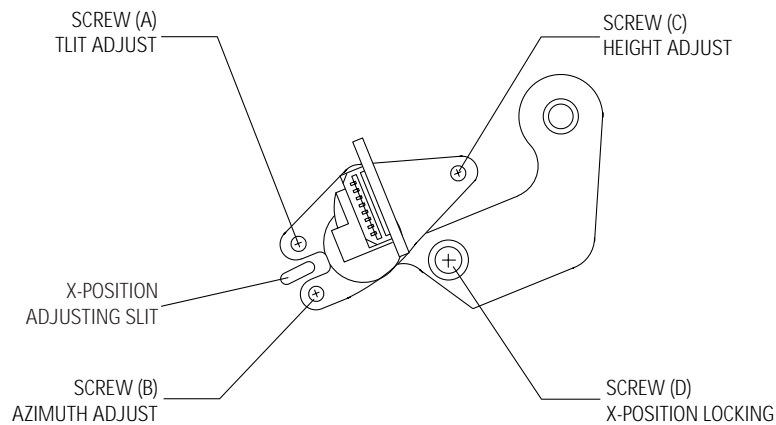

Fig. 2-10 Location of ACE Head Adjustment Screw
- 3) Turn screw (C) clockwise or counterclockwise until the gap of lower tape edge and the lower edge of the control head is about 0.25mm. (Refer to Fig. 2-10 and 2-11)
- 3) Adjust screw (B) to achieve maximum audio level. (See Fig. 2-10)